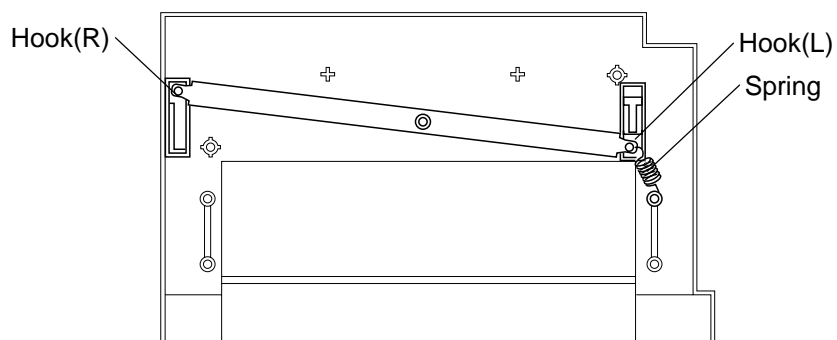

Fig.7-59
- When re-assembling, ensure the hooks are fitted facing in the correct direction on the release arm. The two hook assembly sliders are of different widths to ensure correct assembly. (Refer to Fig.7-59 below.)